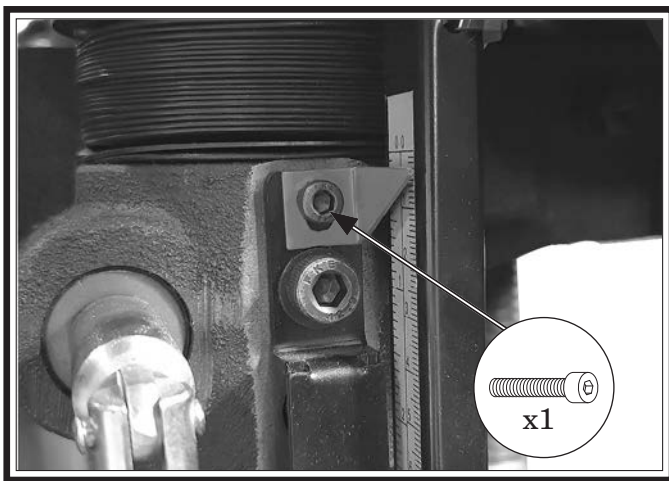

Figure 60. Location of adjustment screw for table height scale.
2. Loosen scale pointer cap screw shown in **Figure 60**.
3. Adjust scale pointer to 1/4" mark on scale, then tighten cap screw (see **Figure 60**).